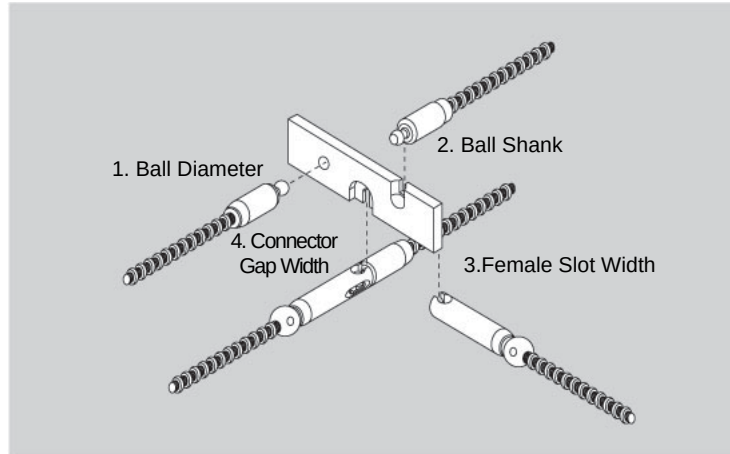

Figure 9 - No-Go gauge tests
- d. A final check of the control cable connector and source assembly connector is accomplished by use of a Model 550 NO GO gauge to check for significant wear on the connectors that would affect safety. Without using excessive force, check the following four positions (see Figure 9):